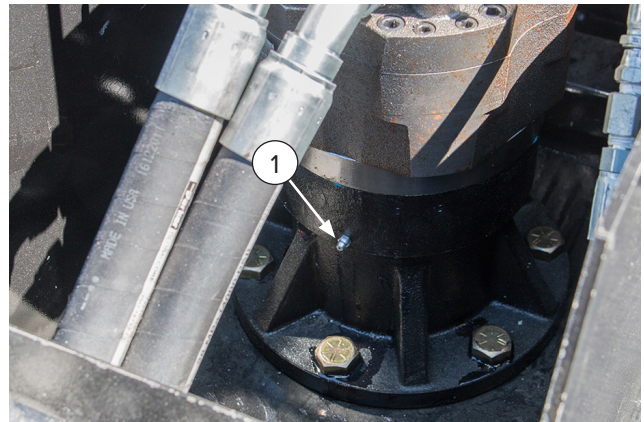

Figure 6
4. Insert 10 pumps of grease at the grease zerk [Figure 6, Item 1]. Use a Red Lithium High Temperature grease, such as Shell Gadus S3 V220C 2 (BD#203069).